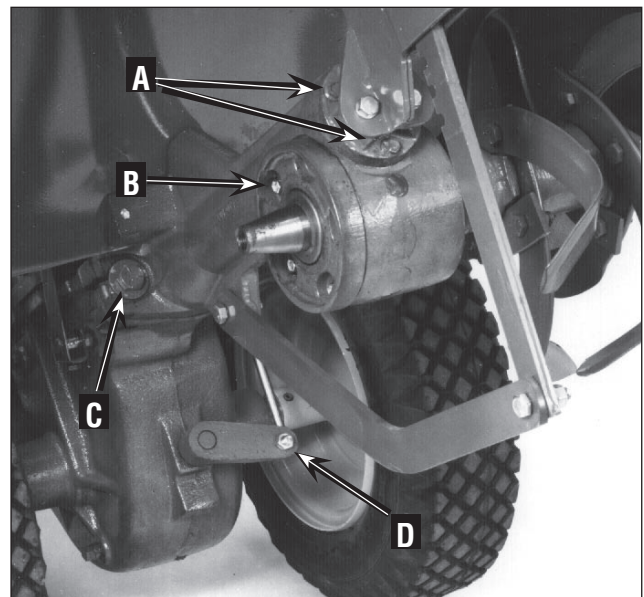

Figure 5-3: Gently tilt tiller forward to check fasteners.
3. Check the three rear bearing cap screws under the depth regulator mounting bracket (A, Figure 5-3). If any is loose, it can cause an oil leak or drive shaft end play.
4. Check the five bolts securing the tiller housing cover to the left side of the transmission (B in Figure 5-3). Gear oil can leak from a loose housing cover. To reach the bolts, remove the left side tine holder. See *Bolo Tine Maintenance* in this Section for tine holder removal directions.
5. Check both swing-bolts (C, Figure 5-3) that connect the power unit transmission to the tine attachment. Both bolts should be checked every 2-1/2 hours of operation. If loose, wear can occur on the locating pin on the power unit, and cause enlargement of the locating hole in the tine attachment. Using a torque wrench, tighten these bolts to 70-to-80 ft.-lbs.
6. Check the locknut that fastens the shifting linkage to the eccentric shifting lever (D, Figure 5-3). Do not tighten the locknut against the eccentric lever. It should be very close to, but not touching the lever.